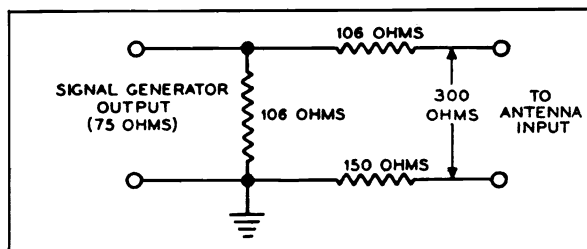

Fig. 1. Antenna-Input matching network.
An impedance-matching network for coupling the signal generator to the antenna input terminals of the receiver is shown in figure 1. This network, which is designed to have an input impedance of 75 ohms and an output impedance of 300 ohms is used to match a 75-ohm generator to a 300-ohm antenna-input circuit. The resistors used in this network should be of carbon-composition construction, and should be chosen from a group, to obtain values within ten percent of those indicated. The resistors should be placed in a shield can, to prevent variable effects. An antenna-matching jig, Philco Part No. 45-1736, which consists of a matching transformer and connecting box, may be used in place of the resistor network.
SWEEP (FM) GENERATOR: Connect to receiver antenna-input through Antenna-input Matching Network. (See figure 1.)
SWEEP (FM) GENERATOR: After step 9, connect to antenna-input circuit through antenna-input matching network. (See figure 1).